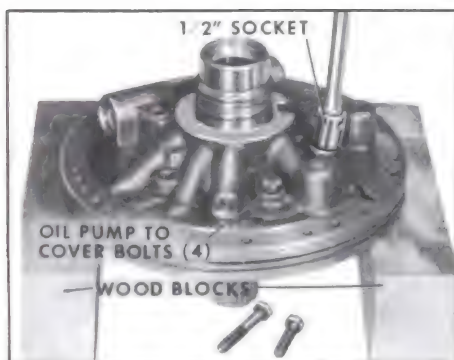

Figure 5-185
4. Support oil pump on wood blocks. Remove five (5) pump cover bolts with a 1/2" socket. Remove pump cover. See Figure 5-185.